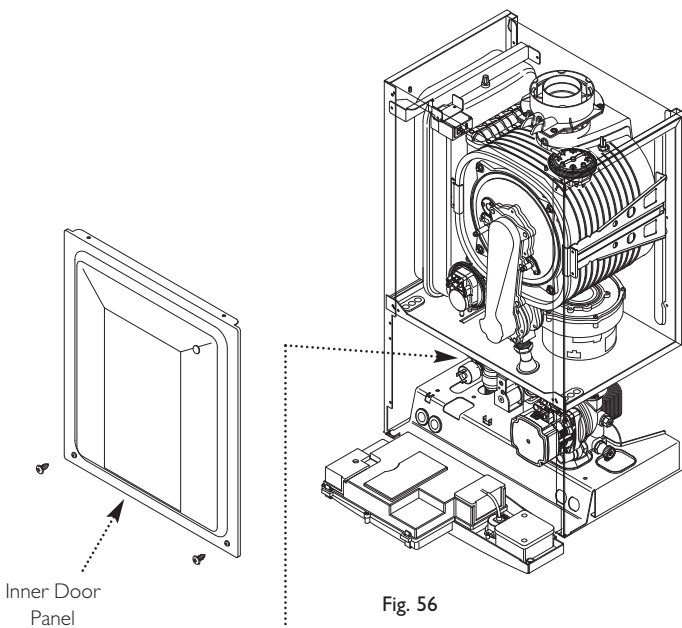

Fig. 56
4. Remove the screws securing the inner door panel. Lift the panel slightly to disengage it from the studs on top of the case (Fig. 56).